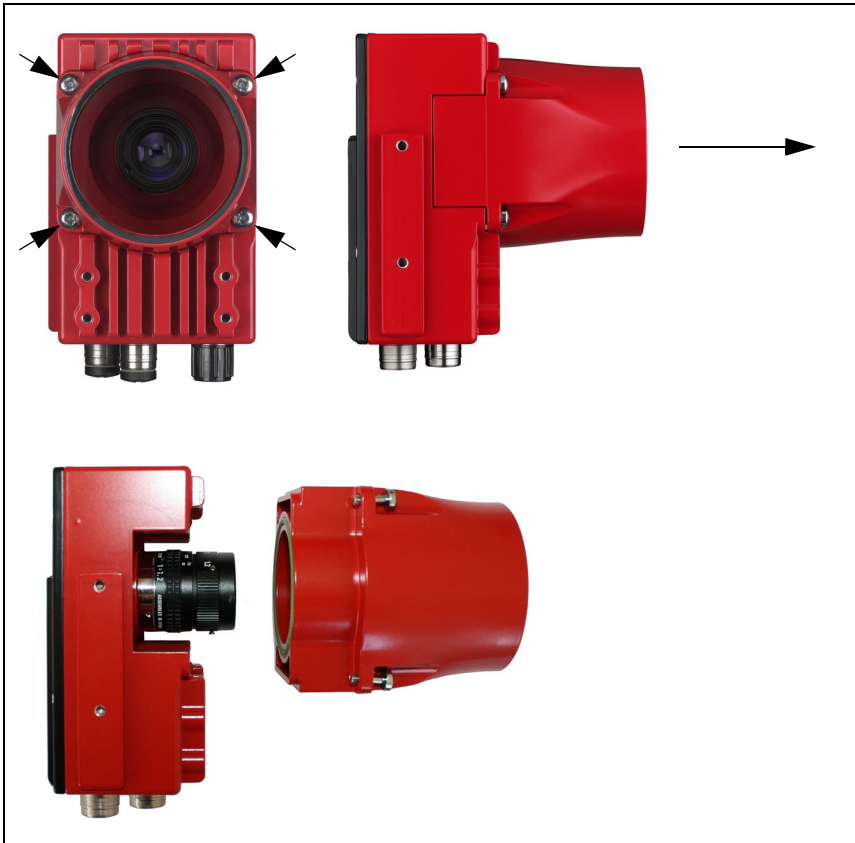

Figure 4.8: Lens replacement for C-mount devices
- ✎ First loosen the 4 Phillips screws on the lens cover and remove the cover to the front as shown in figure 4.8.